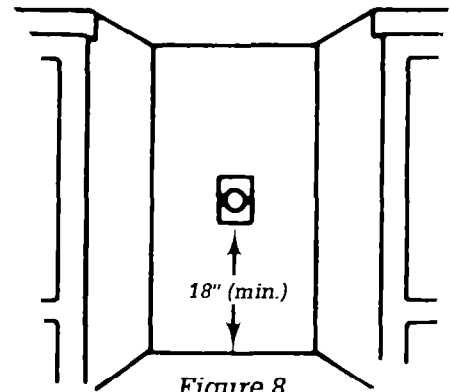

Figure 8
7. A grounded receptacle should be located 18" (min.) from the floor and in the center of the opening. (See Figure 8.)